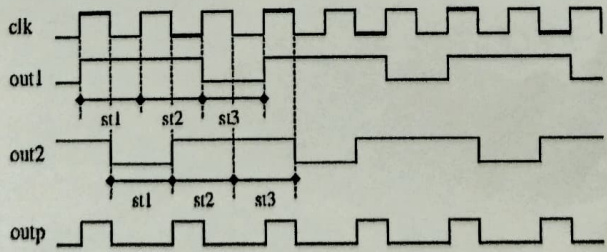

Fig.5. outp waveform
- 7.(b) Develop a VHDL code to generate the following **outp** waveform given in Fig.5.